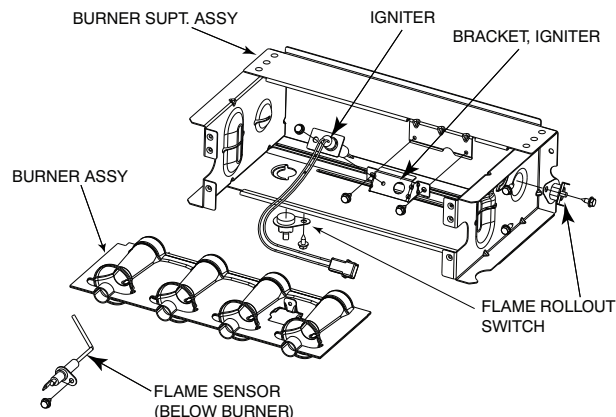
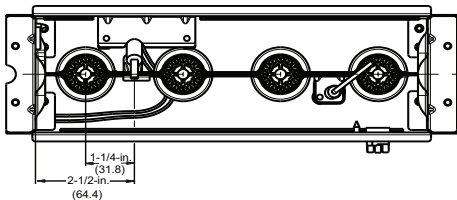
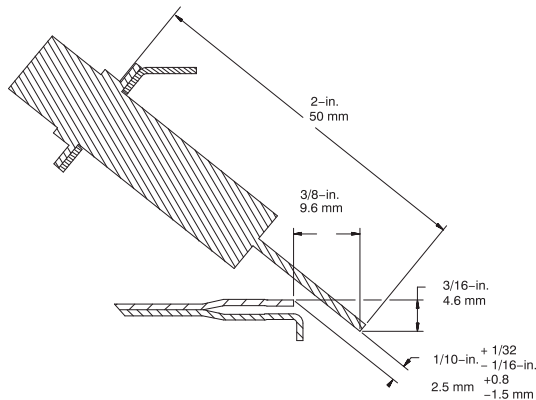

Fig. 66 – Burner Assembly
Fig. 67 – Igniter Position - Top View
Fig. 68 – Igniter Position - Side View
Refer to Fig. 66.
8. Check the igniter alignment. See Fig. 66, Fig. 67, and Fig. 68.
The igniter does **NOT** require annual inspection. Check igniter resistance before removal. Refer to Fig. 66, Fig. 67, and Fig. 68.
- a. Using a 1/4-in. driver, remove the two screws securing the igniter mounting bracket to the burner assembly See Fig. 66.
6. To replace igniter and bracket assembly, reverse items 5a through 5d.
7. Reconnect igniter harness to the igniter, dressing the igniter wires to ensure there is no tension on the igniter itself. See Fig. 66.